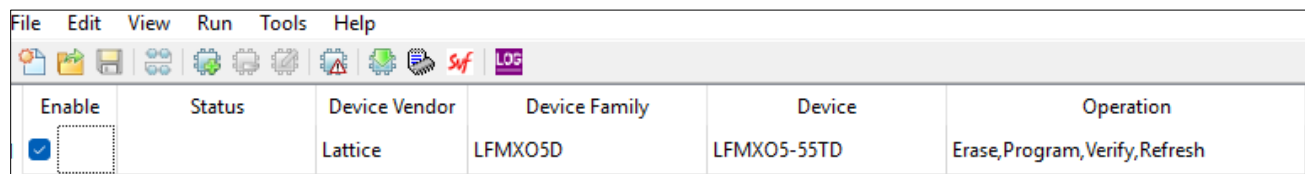

Figure 11.3. Radiant Programmer – Device Detection
- The LFMXO5-55TD device is detected, as shown in Figure 11.3.